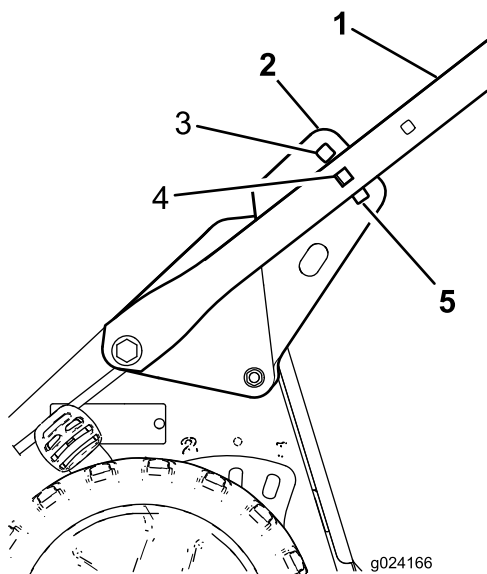

Figure 4
4. Stand behind the machine in the operating position to determine the handle height that is most comfortable for you (Figure 4).